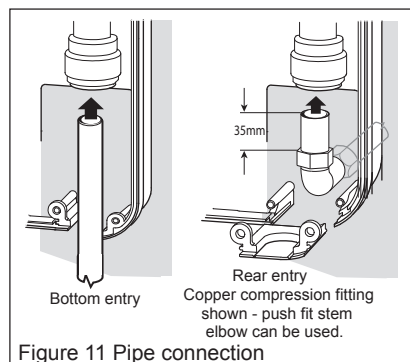

Figure 11 Pipe connection
- 5.9 The handwash has been designed for a 15mm water pipe using the pushfit connection - see Figure 11 p12.
- 5.17 Connect the cold water supply pipe to the inlet of the handwash, this is a push fit - see Figure 11 above.